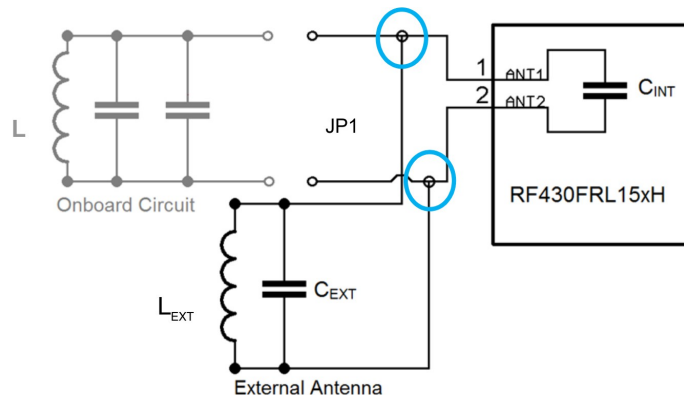

Figure 9. EVM Antenna Connection
Figure 9 shows the basic input circuit of the RF430FRL15xH. The (onboard) antenna (L) with the internal parallel capacitor ( $C_{INT}$ ) generates a resonance circuit at the desired frequency.